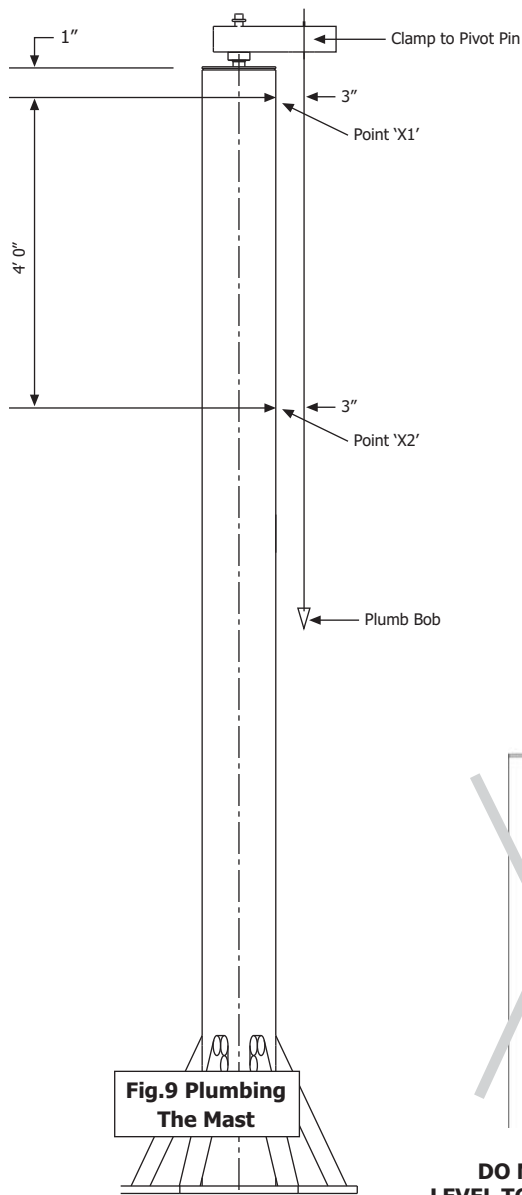

Fig.9 Plumbing The Mast
- d) At point 'X1' 1" below top mast plate, set plumb line a distance of 3" from surface of mast (fig 9).